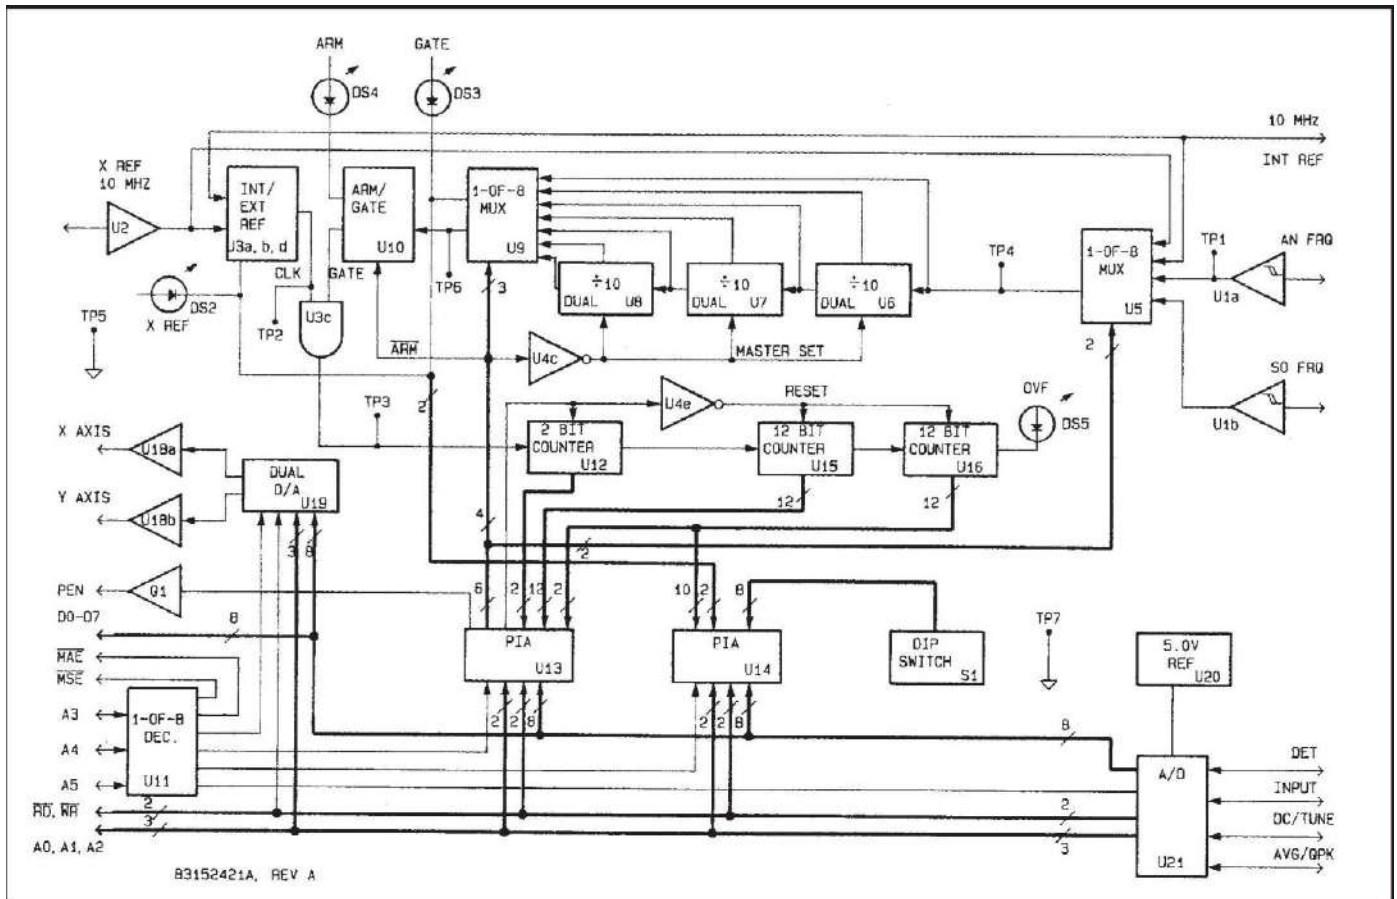

Figure 4-4. Frequency Counter Circuits Block Diagram
**4-35. A4 Frequency Counter Circuits.** The counter circuits provide the frequency measurement functions of the Model 1121A. Additionally, the analog-to-digital converter (A/D), the sweep output circuits, and the option switch are located on the counter plug-in board. Refer to Figure 4-4.